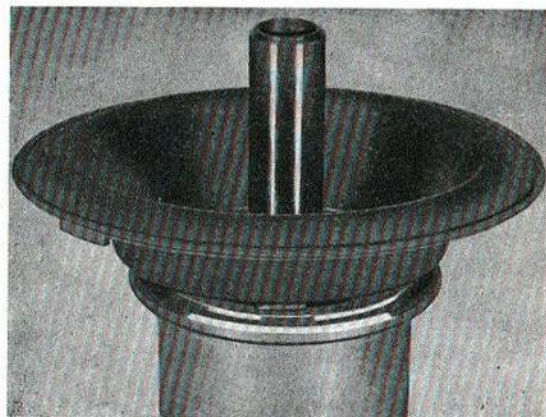

Fig. 2-122. Diaphragm in air valve
3. Fit the new diaphragm, see Fig. 2-122. The rubber register should fit into the valve groove.